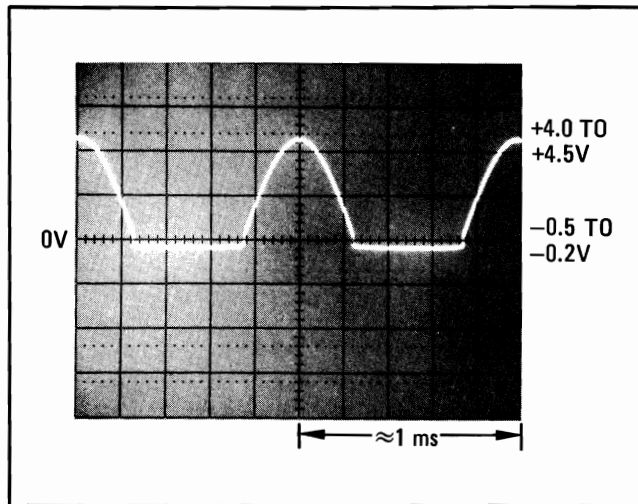

Figure 8-66. Full-Wave Rectifier Check Waveform
3. Connect the oscilloscope to pin 6 of U5. The waveform should be as shown in Figure 8-66. (Note: Excessive input capacitance of the oscilloscope may cause oscillation. Use a divide-by-ten probe.)